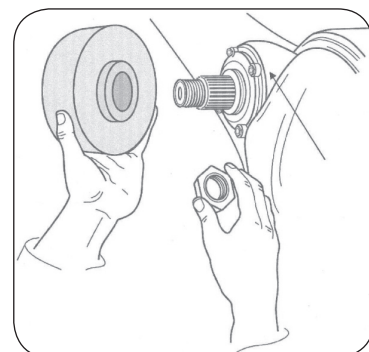

Figure 2-Remove bearing cage bolts to ensure seal is installed completely.
**Note: On the forward tandem axle output location, the PT6000 will not completely seat the seal into the bearing cage retainer unless the bearing cage retainer bolts are removed first. See Figure 2.**